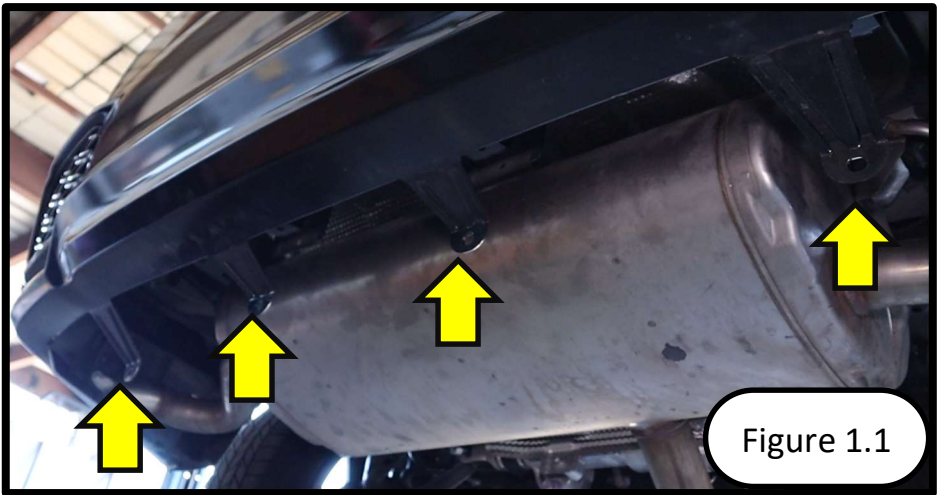

Figure 1.1
- With trim removal tool, remove the plastic fasteners under the bumper. Let all the mounting struts hang downward. See Figure 1.1.